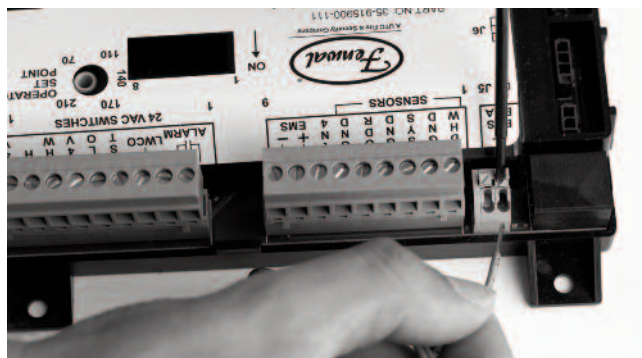

Fig. 24: FT\_BUS Wire Connection
3. Connect the FT\_BUS wires to the PIM™ by pressing down on the slots with a small screwdriver and then inserting the wires into the holes. See Fig. 24.